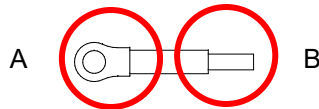

Fig 2-7
- You must ground the communication card when wiring CMM-EC02. The ground terminal is included in the communication card package, as shown in Fig.2-7.